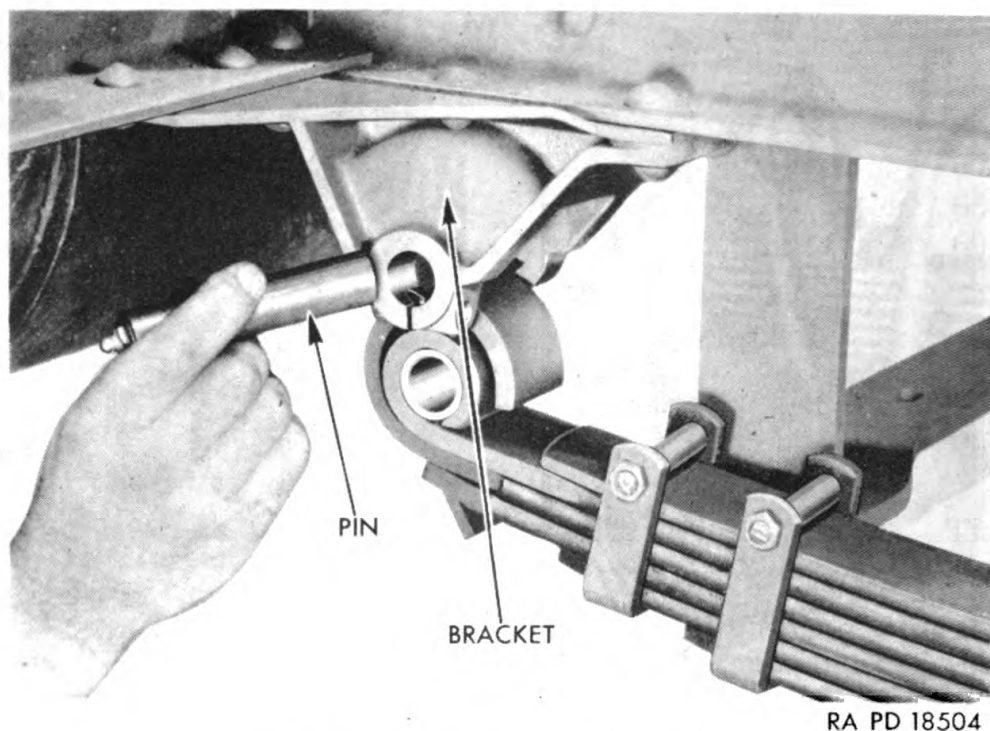

Figure 205 — Removing Front Spring Pin
d. Remove front spring pin retainer bolt nut and lock washer. Remove spring pin (fig. 205).